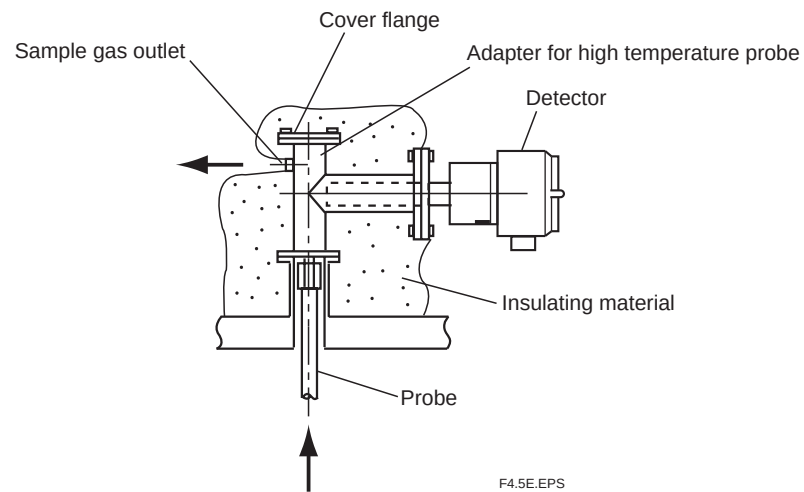

Figure 4.5 Preventing to condensation
- If the temperature of a sample gas is high and its pressure exceeds 0.49 Pa, the temperature of the sample gas at the detector may not be below 700°C. In this case, connect a needle valve (commercially available) through a nipple (commercially available) to the sample gas outlet (Rc1/2) of the probe adapter so that the sample gas exhaust volume can be restricted. In cases where condensation is likely to occur in the probe adapter when the sample gas is cooled, protect the probe adapter with an insulating material as shown in Figure 4.5.